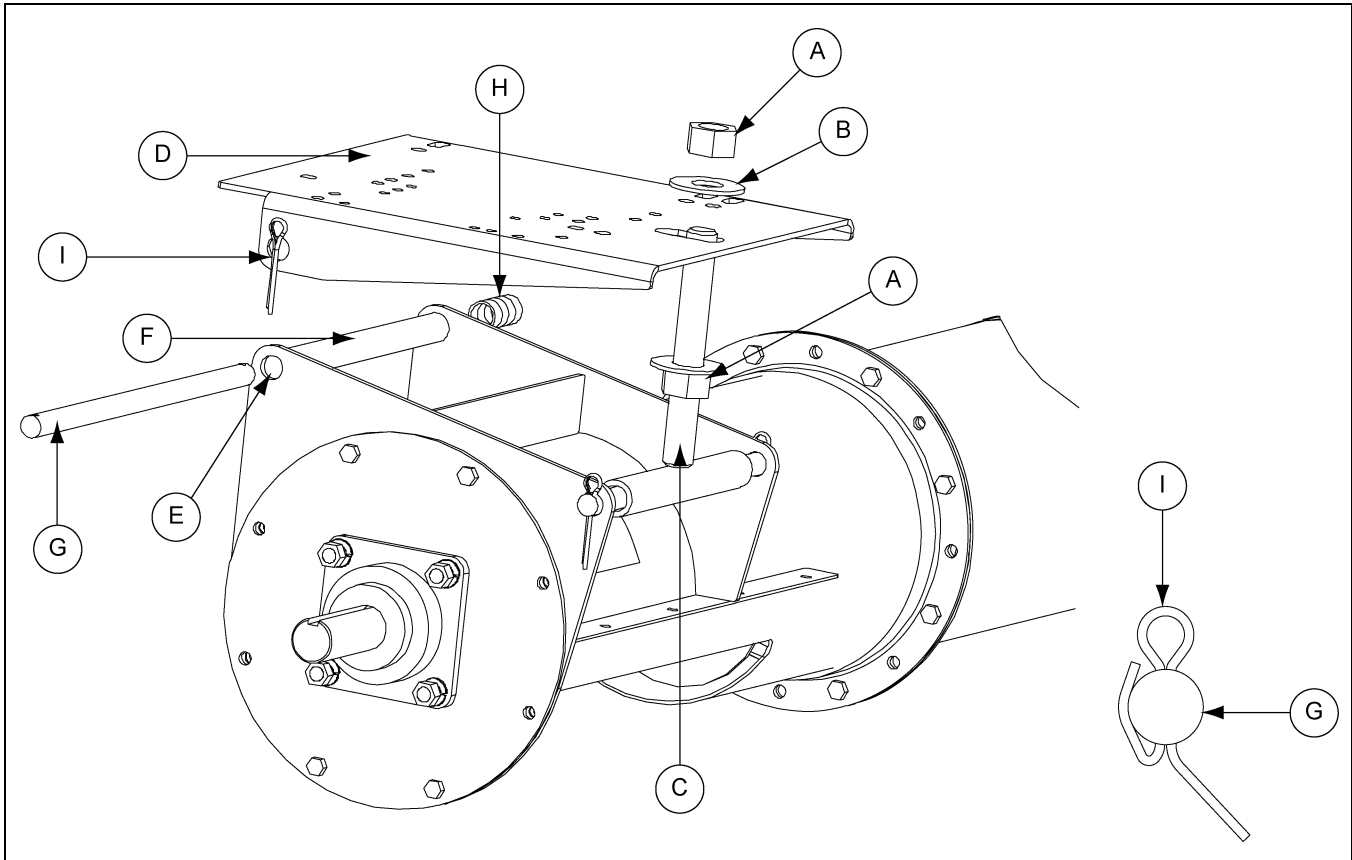

Figure 4E
1. Secure one of the motor mount adjustment nuts (A) and one the motor mount adjustment washers (B) approximately 3/4 of the way down the motor mount adjuster's threaded shaft (C).
2. Once the nut and washer is secure, slip the motor mount plate (D) over the adjuster and align the pivot holes (E) with the pivot tube (F). (See Figure 4E.)
3. Slide the motor mount pivot rod (G) through the pivot tube (F) on the discharge tube.